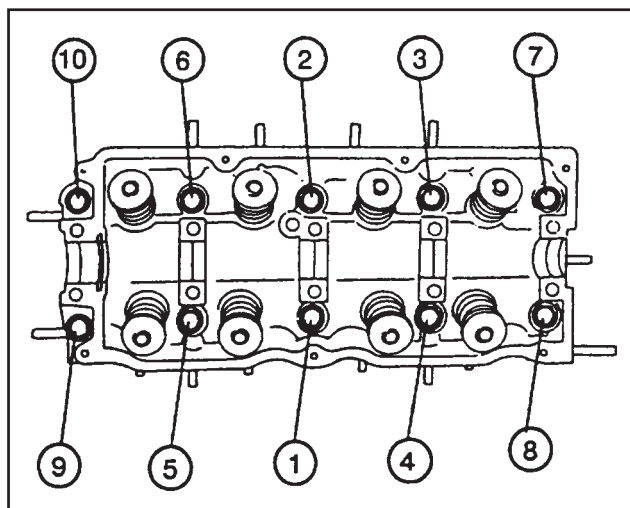

FIGURE 18. INSTALLATION OF THE CYLINDER HEAD
4. Install the capscrews and washers for the cylinder head. Tighten the capscrews to 80 to 86 N.m (820 to 880 kgf·cm) as shown in FIGURE 18.